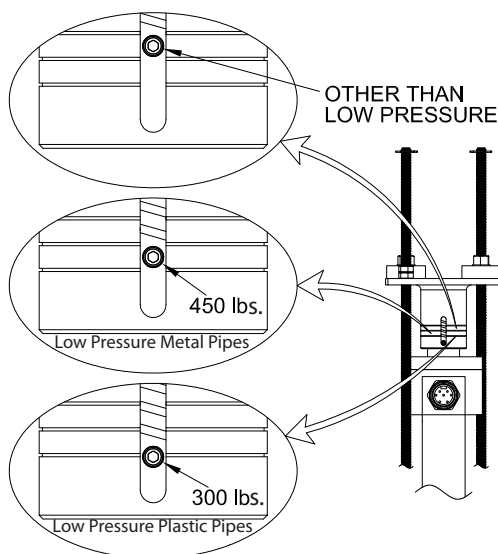

Figure 15: Sensor Load Indicators
1. Rotate the two captive nuts on the top plate simultaneously and evenly until the proper load is indicated by the set screw's relationship to the lines etched on the top plate. See Figure 15.